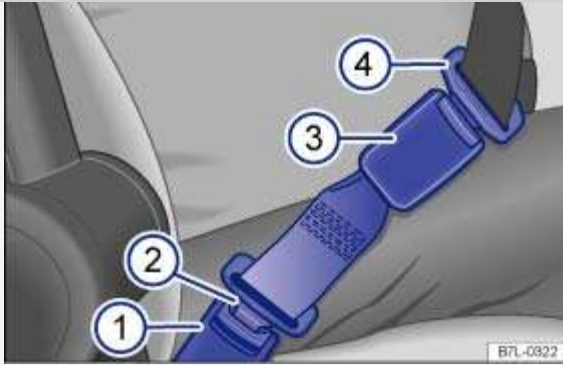

Fig. 67 A safety belt extender properly attached to the factory-installed safety belt.
Key to ⇒ Fig. 67 :
- Insert the buckle tongue on the safety belt extender ⇒ *Fig. 67②* into the vehicle belt buckle for the seat where the safety belt extender is being used ⇒ *Fig. 67①* .